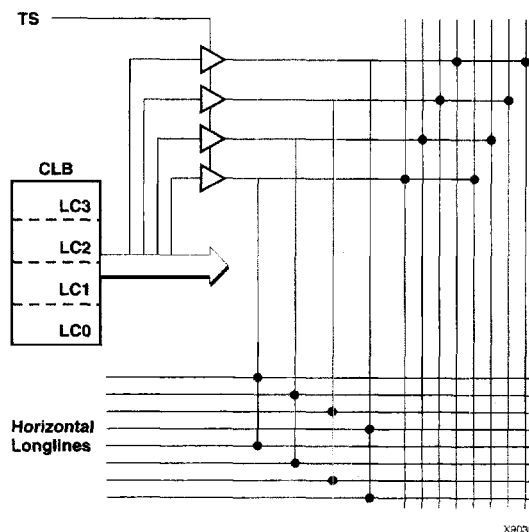

Figure 10: XC5200 3-State Buffers
The XC5200 family has four dedicated Three-State Buffers (TBUFs, or BUFTs in the schematic library) per CLB (see Figure 10). The four buffers are individually configurable through four configuration bits to operate as simple non-inverting buffers or in 3-state mode. When in 3-state mode the CLB output enable (TS) control signal drives the enable to all four buffers. Each TBUF can drive up to two horizontal and/or two vertical Longlines. These 3-state buffers can be used to implement multiplexed or bidirectional buses on the horizontal or vertical longlines, saving logic resources.